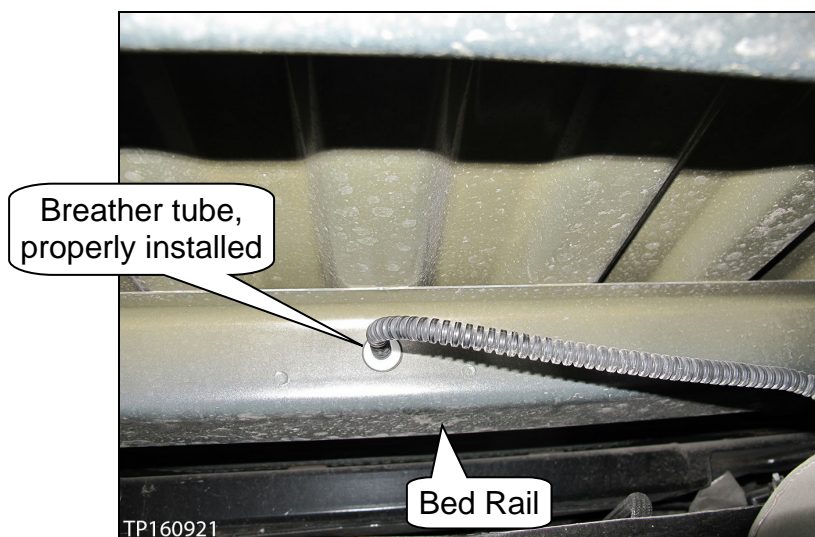

Figure 2
- a. If the breather tube is properly connected to the bed rail (see Figure 2), STOP HERE. No further inspection or repairs are necessary.